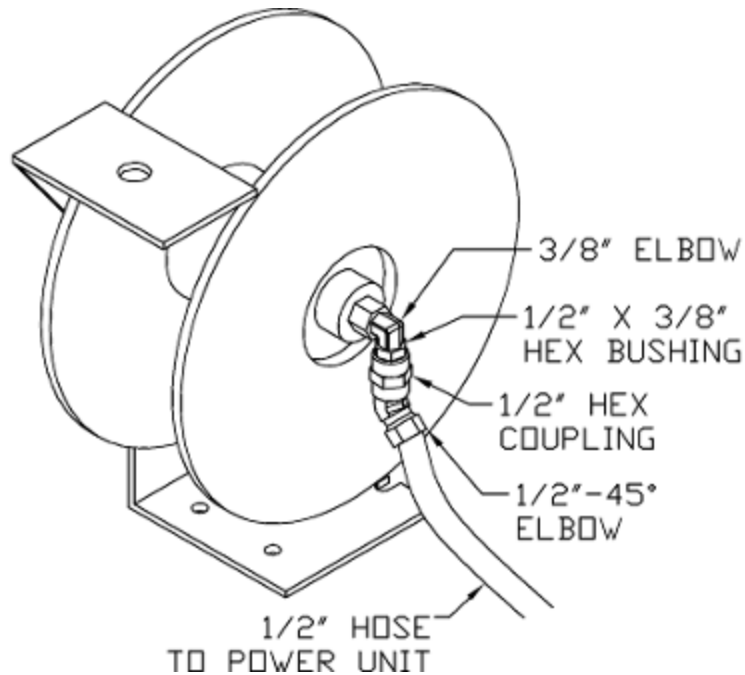

Figure 29 Hose Reel Transition Fittings
- Make sure there is at least 1/8" running space between the cylinder casings and the synchronization chains that run on either side of the cylinders (see **Figure 29**).
2. Install the 1/2" x 240" high pressure hose from the pressure outlet on the power unit (1/2" NPTF fittings) to the hose reel on the lower level floor. Use the fittings shown in **Figure 29** to transition from the 1/2" hose to the 3/8" connection on the reel.